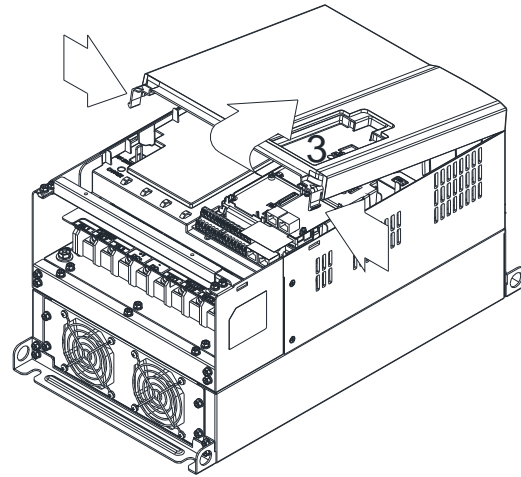

Figure 2
2. (Figure 2) Loosen screw 3, press the tab on the right and the left to remove the cover. Screw 3 Torque: 6–8 kg-cm / [5.2–6.9 lb-in.] / [0.6–0.8 Nm]